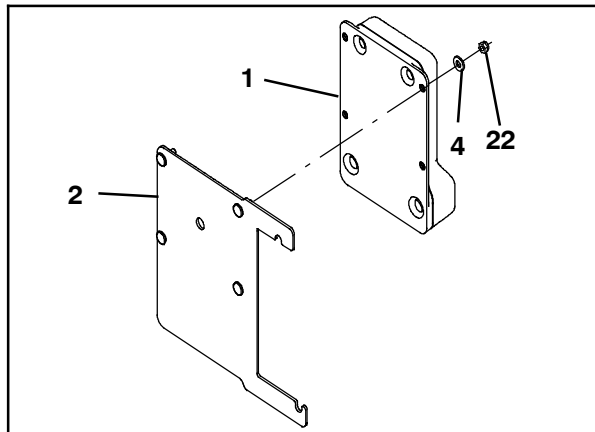

Fig. 18
14. Use four M6 hex nuts (22) and four flat washers (4) to install the telemetry control box (1) onto the module bracket (2). (Fig. 18)